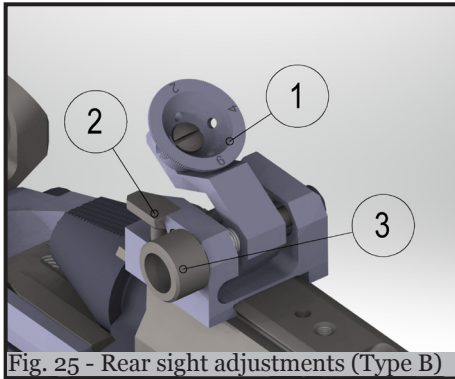

Fig. 25 - Rear sight adjustments (Type B)
To use the rear sight, lift up the diopter wheel (1, (Fig. 25)). The diopter wheel is returned down by pushing button (2). Windage adjustment is done by rotating adjustment screw (3) by hand. Turning the screw clockwise moves the diopter wheel to the right, and vice versa.